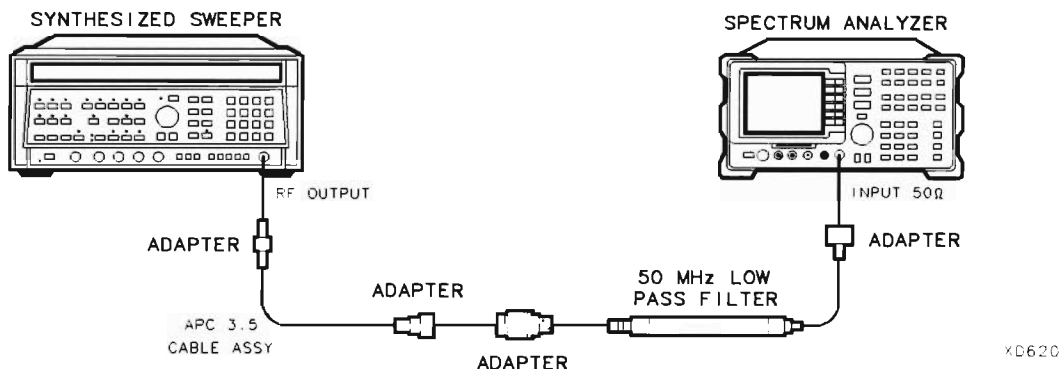

Figure 2-56. Second Harmonic Distortion Test Setup
2. Connect the equipment as shown in Figure 2-56.